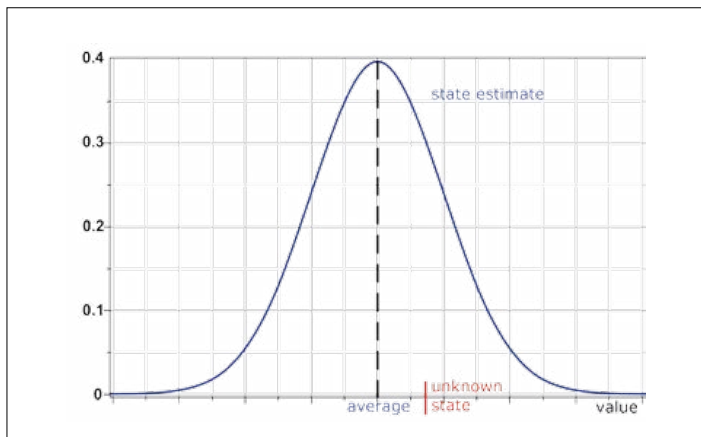

Figure 6. Gaussian probability density function.
1. Using the model of the system, together with the commands produced at an instant t , to predict the state of the system at $t + dt$. The prediction also estimates how the current uncertainty about the state of the system changes depending on the uncertainty on the model itself. All the uncertainties in a Kalman filter are the subject of Gaussian approximations. For a system having only a single state, the classic Gaussian curve is shown in **Figure 6**. In other cases, this becomes a multi-Gaussian curve with several dimensions.